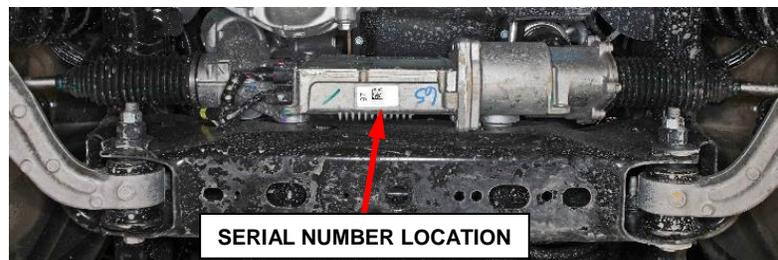

Figure 1 – Serial Number Location
4. Locate and read the serial number on the EPS gear (Figures 1 and 2).